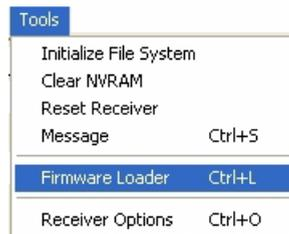

Figure 5-16. Tools->Firmware Loader
4. Click the *Tools->Firmware loader* (Figure 5-16).